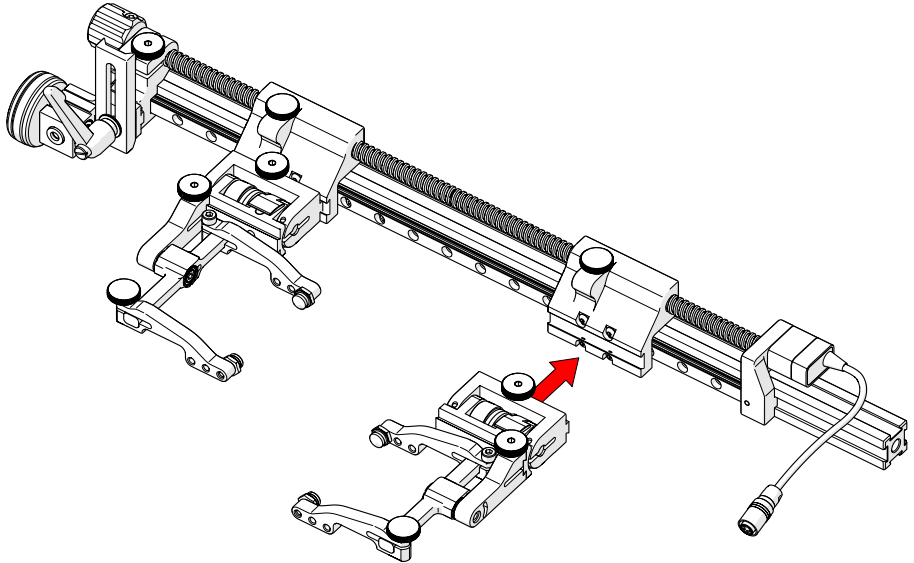

Fig. 166 - Mount probe holders
1. Attach the probe holders (see *Slip Joint Probe Holder on page 29*) to the carriage (Fig. 166).